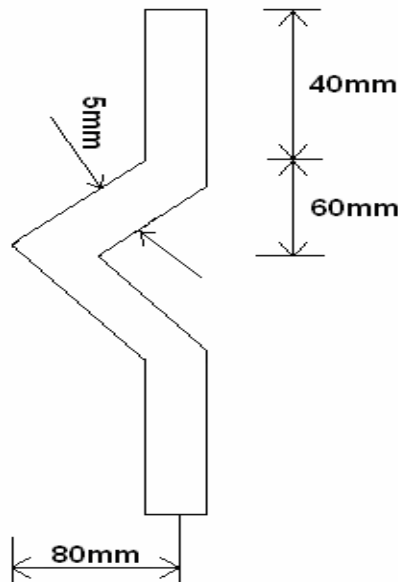

Fig .2
- b) Locate shear centre for the section shown in fig.2 .